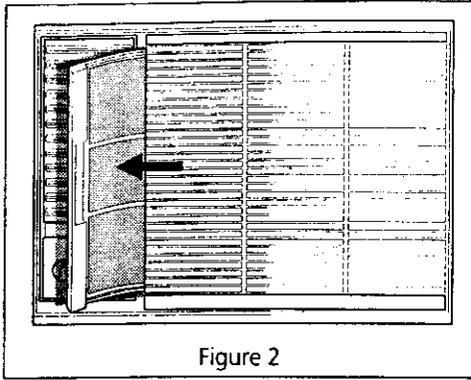

Figure 2
Front Installation - Some Side Air Discharge Models (FIG. 2)
- Install front retaining screw(s) at the bottom of the front (Fig. 1), or behind the filter handle (Fig. 2).
- 6-way louver models have a slide out filter. Grasp the formed handle of the filter and pull it to the left, removing it from the front panel (Figure 2).